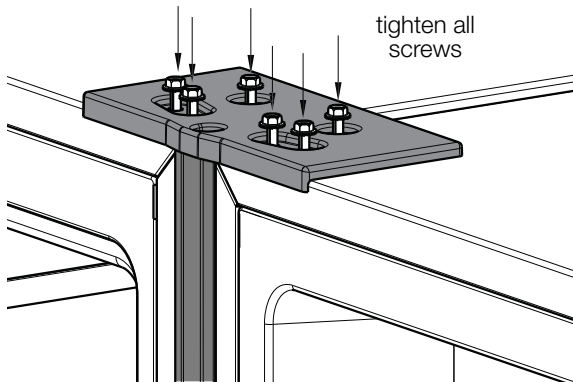

Figure 14
- Tighten the screws in the top-front bracket. (Fig. 14)